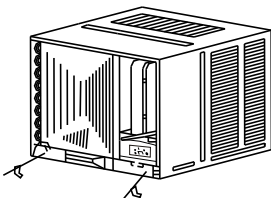
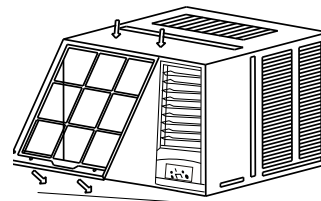

Fig. 5
Fig. 8
- 1 Remove the fixing screw on the chassis fixing bracket, then remove the chassis fixing bracket (See Fig.5).
- 3 Push the unit chassis into the cabinet (See Fig.8).4 Reinstall the chassis fixing bracket removed earlier (See Fig.5).
- 1 Install the frame making sure not to jam the power supply cable (See Fig.8).